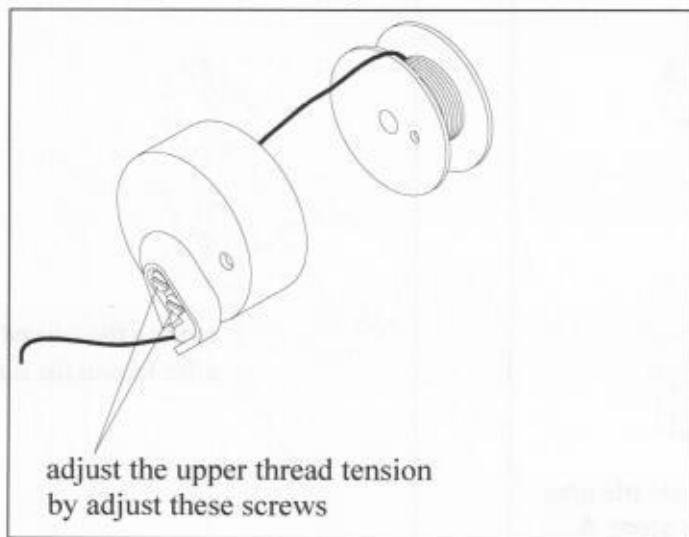

Fig.8
**4.7.1** Adjust the screw of thread clamping plate on the bobbin housing to set the tension of upper thread.(as shown in Fig.8)